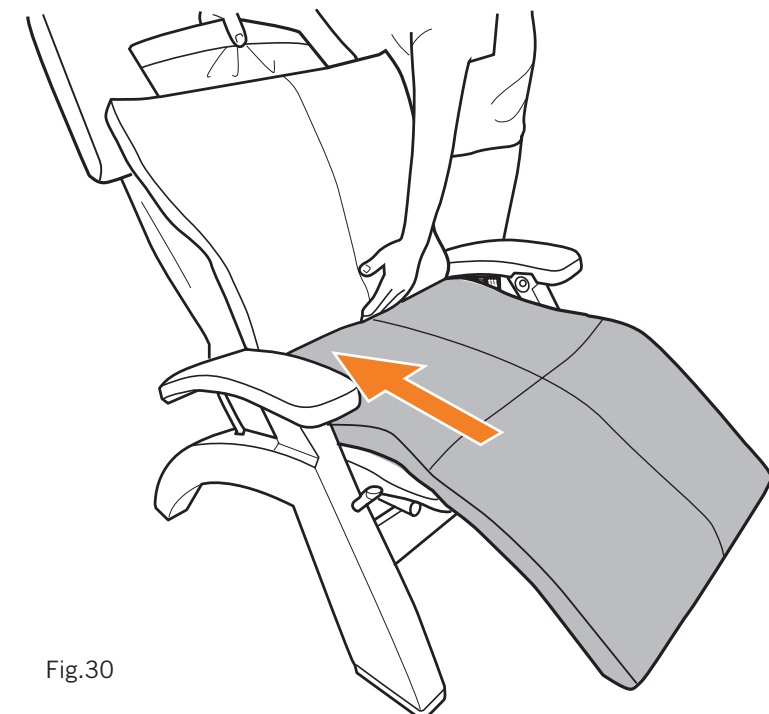

Fig.30
4. Lift up on the body pad to detach the seat hook and loop fasteners, pull it firmly up toward the seat, then press firmly down on the seat and leg area to secure it (Fig.30).